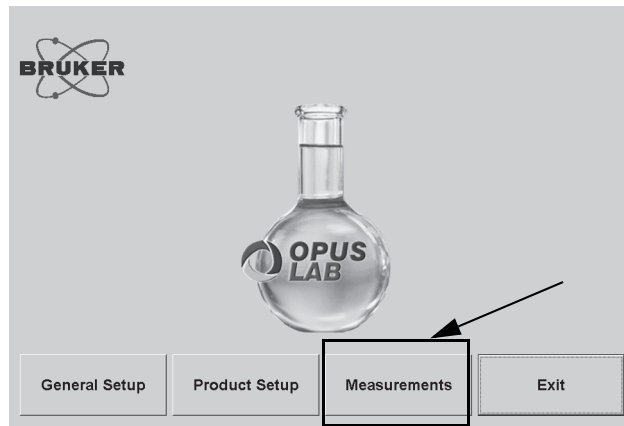

Figure 35: OPUS LAB Measurements
- 1) Click the *Measurements* button (figure 35 on page 53). The following dialog opens:
- 1) Click the *Measurements* button (figure 35 on page 53). The following dialog is displayed: